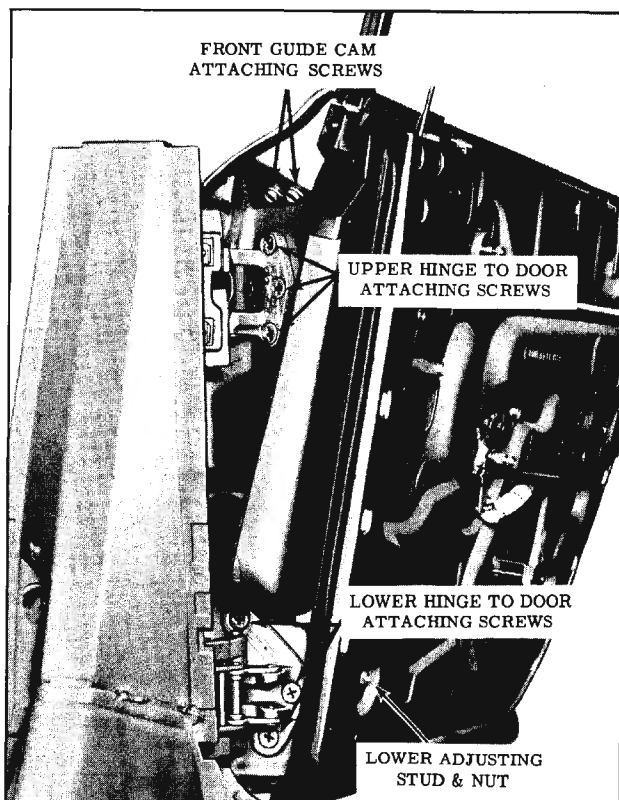

Fig. 16-50 Rear Door to Hinge Attachment
1. For in and out or up and down adjustment, loosen hinge to door pillar attaching screws, adjust door as required and tighten screws. (Fig. 16-50)